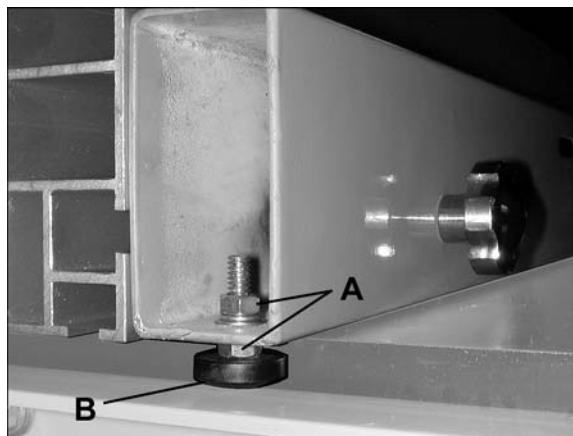

Figure 11
- And/or....Adjust the back end of the fence by loosening one hex nut and tightening the other (A, Figure 11) in order to raise or lower the sliding pad (B, Figure 11) as needed. When the fence-to-table gap is equal, make sure both hex nuts are tightened against the fence body.